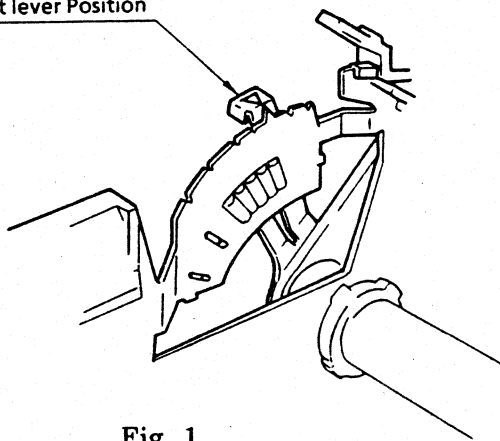

Fig. 1
2. Set an adjust lever position as shown in Fig. 1.